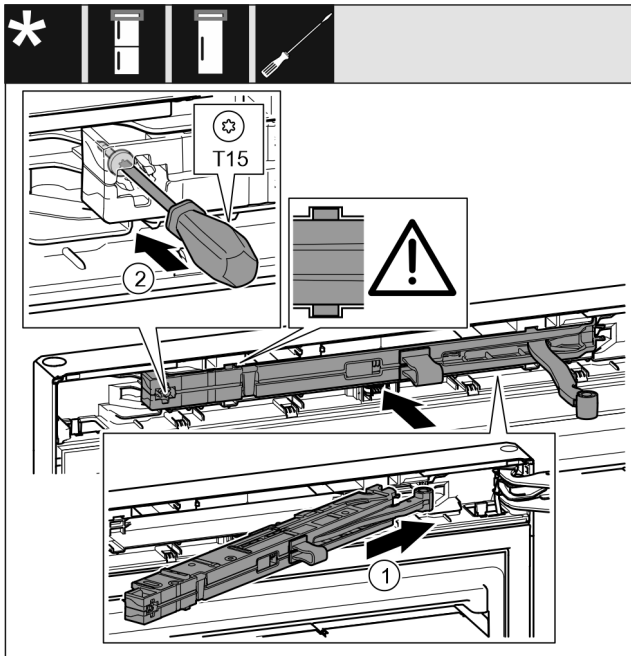

Fig. 46
- ▶ Slide the soft stop mechanism on the bearing bracket side at an angle into the recess as far as it will go. Fig. 46 (1)
- ▶ Tighten the screw using a T15 screwdriver. Fig. 46 (2)